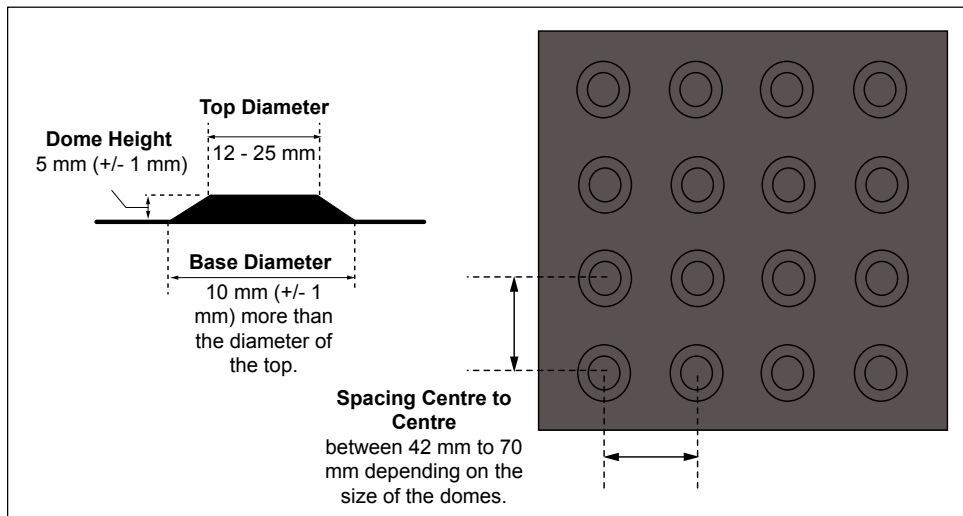

Figure 18: Truncated Dome Specification
- a. ensure flat-topped domes are 5 mm (+/- 1 mm) high (**Figure 18**);